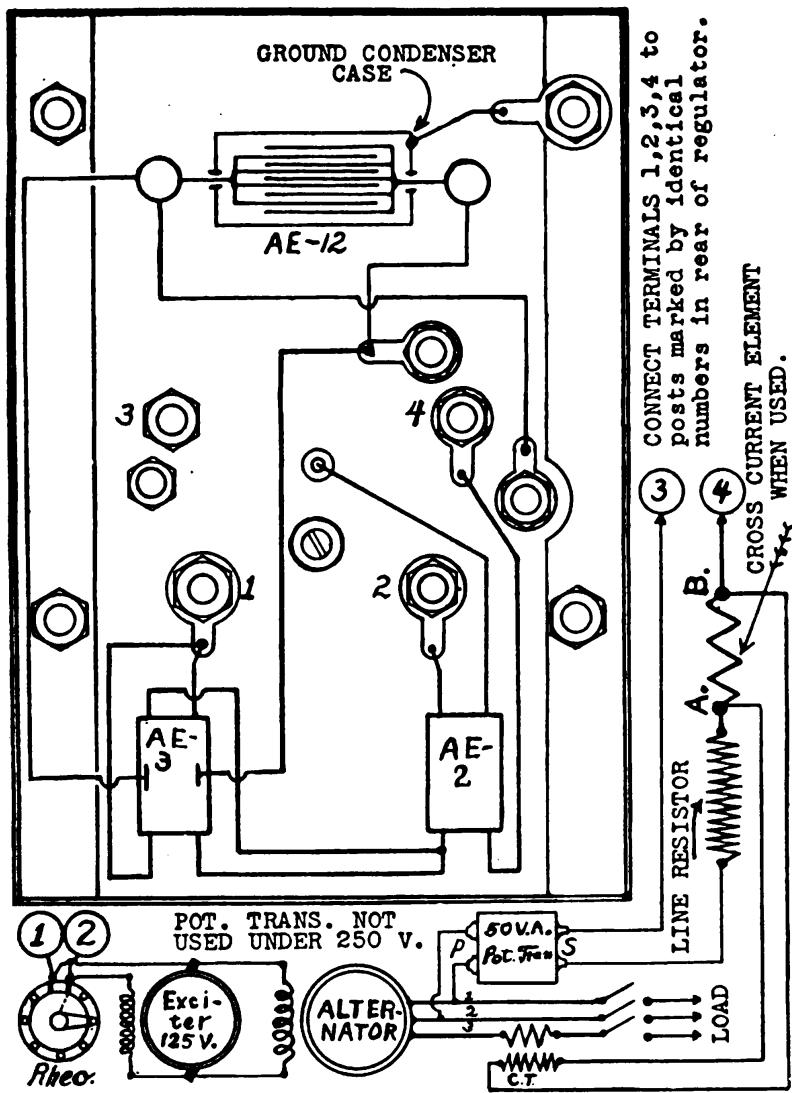

Figure 20. Cross-current connections.
- (5) Adjust the governors on both engines if necessary.
- (6) Throw the synchronization switch to the OFF position.
d. **Cross-current Connections (fig. 20).**
- (1) Short-circuit the terminals of the current transformer and note the increase or decrease of cross currents.
- (2) If the cross current increases with the short-circuited current transformer, the terminals A and B should be reversed.
- (3) If the short circuiting of the current transformer decrease the cross current, the connections at A and B are correct.